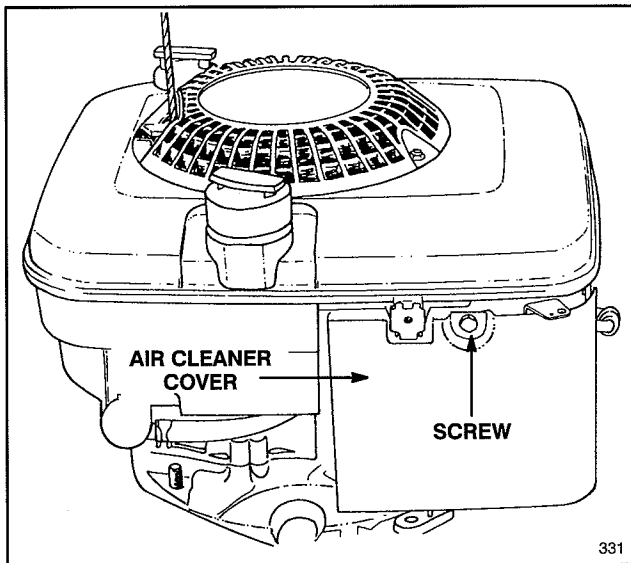

Figure 10
2. Remove screw securing air cleaner cover to engine (Fig. 10). Tilt cover down and clean thoroughly.